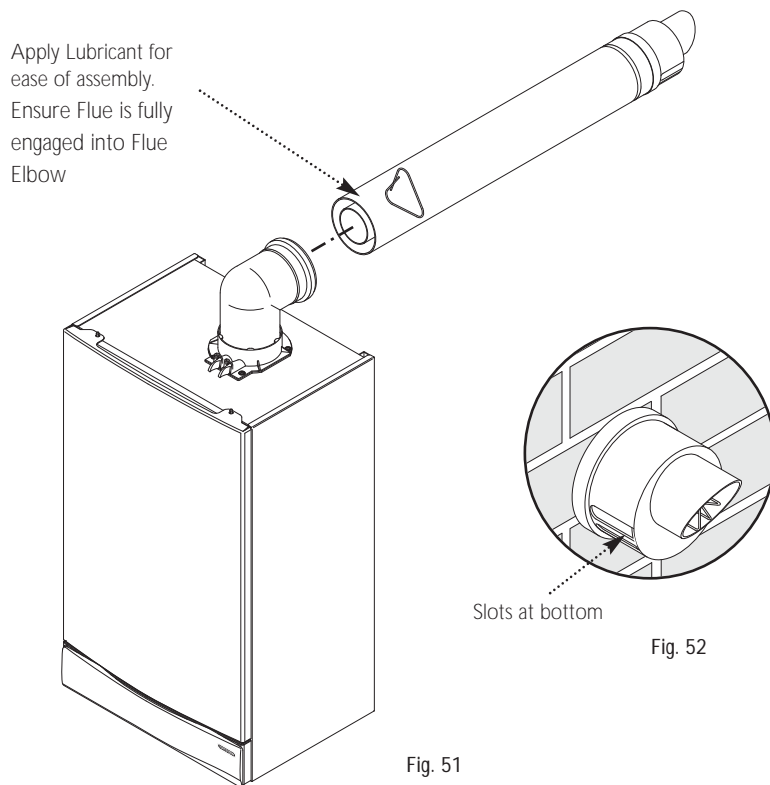

Fig. 51
9. Draw the flue back through the wall and engage it in the elbow. It may be necessary to use soap solution or similar to ease assembly of the elbow adaptor and flue (Fig. 51).